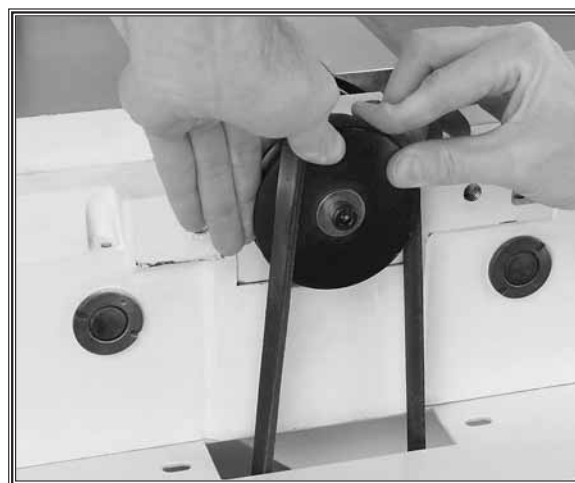

Figure 13. Rolling the V-belt onto the cutterhead pulley.
8. Put the V-belt on the motor pulley, then roll it onto the cutterhead pulley, as shown in **Figure 13**.